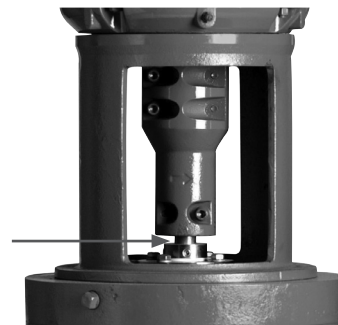

Figure 20a: Run Out Measurement Location
20. Inspect run out of the shaft between the bottom of the coupling and the mechanical seal as shown in Figure 20a. If the run out exceeded 0.005”, the coupling must be adjusted. It is usually most effective to adjust the four bolt section of the coupling.
22. Install the (2) coupling guards.